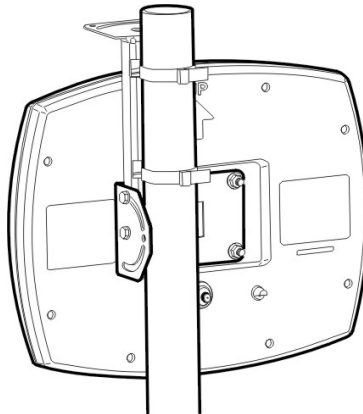

Figure 3.4: Pipe mounted DU
1. Feed the end of the hose clamp through the holes as shown in Figure 3.4: "Pipe mounted DU".